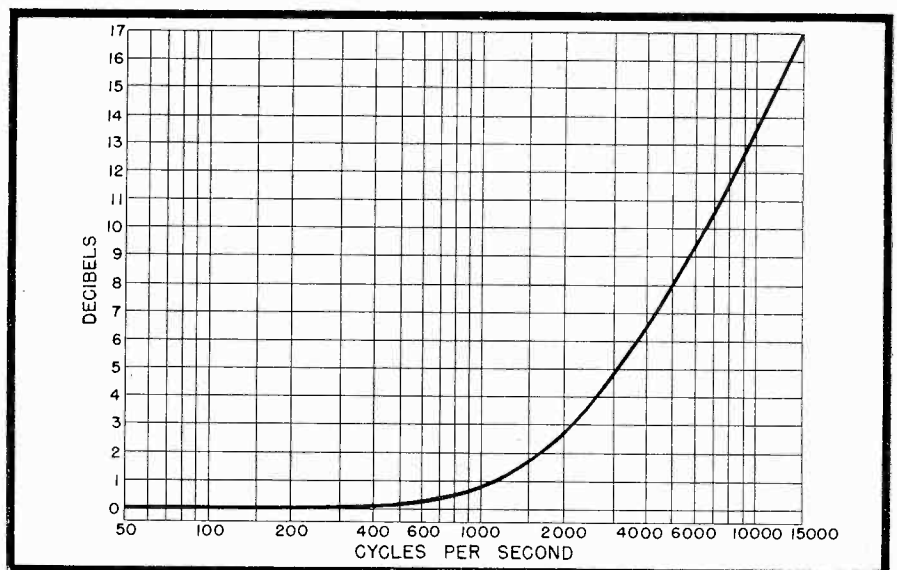

Fig. 5. FCC graph showing pre-emphasis characteristic curve.
1. At the FM broadcast station, the audio frequency components of the modulation signal are amplified in an amplifier with a special frequency characteristic. This characteristic, illustrated in the graph of Fig. 5, causes the audio components of highest frequencies to be amplified the most.